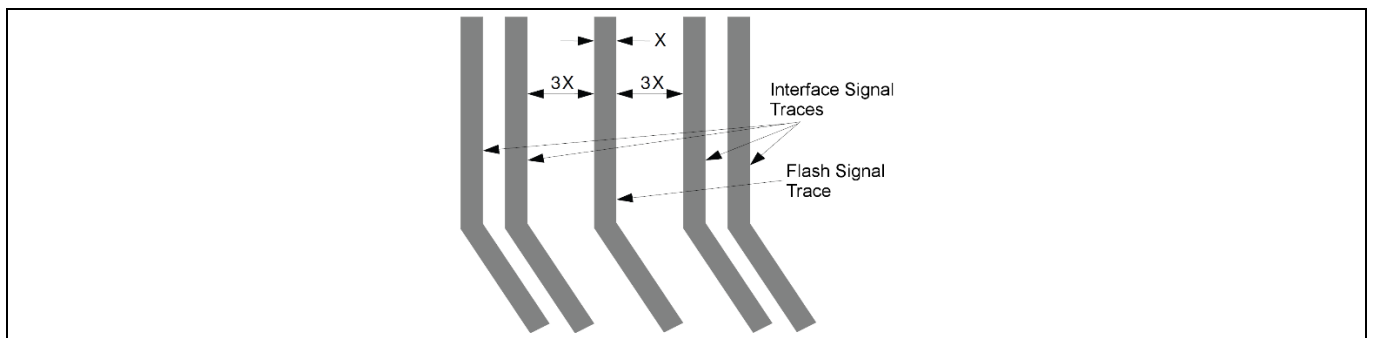

Figure 4 Recommended Signal Trace spacing on the PCB
- The center-to-center trace spacing between signal groups should be greater than three times the trace width. In addition, the center-to-center trace spacing between flash signals and other interface signals should be greater than three times the trace width as well. Figure 4 provides a visualization of the recommended signal trace spacing.